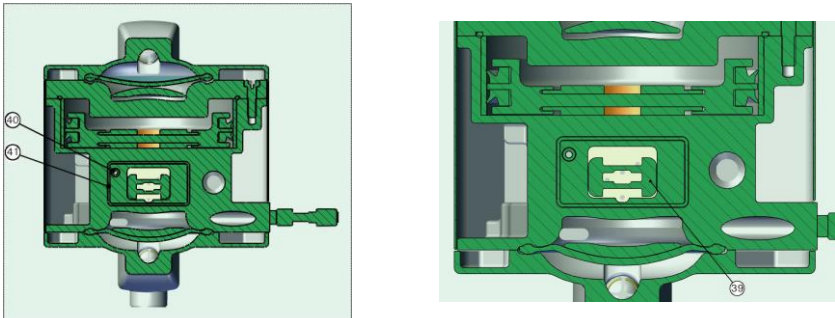

Fig. 11: Position of the ceramic plate and the pneumatic valve block
3. Insert the ceramic plate (42) into the middle section of the pump so that a hole aligns with the O-ring (40) (see Fig. 11, left).
4. Mount the pneumatic valve block (49) in reverse order.
6. Install the piston seals (45) onto the pusher (48) so that the sealing lips face each other.
7. Insert the pusher (48) into the pneumatic valve block (49).
8. Reinstall the O-rings (46) on the caps (47) and mount the caps (47) from the side into the pneumatic valve block (49).
9. Insert the O-ring (50) into the outer groove of the pneumatic valve block (49).
10. Place the O-rings (43) and (44) into the groove of the pneumatic valve block (49).
The mounting direction is shown by the opening on the pneumatic valve block (49) and the recess in the centre piece of the pump (see Fig. 11, right).
12. Insert the main valve obturator (51) with the close side in front into the pneumatic valve block (49). The main valve (51) must be inserted so that the valve (48) can move it.
13. Place the O-rings (52), (54) and (55) into the ceramic plate (53).
14. Insert the ceramic plate (53) into the pneumatic valve block (49).